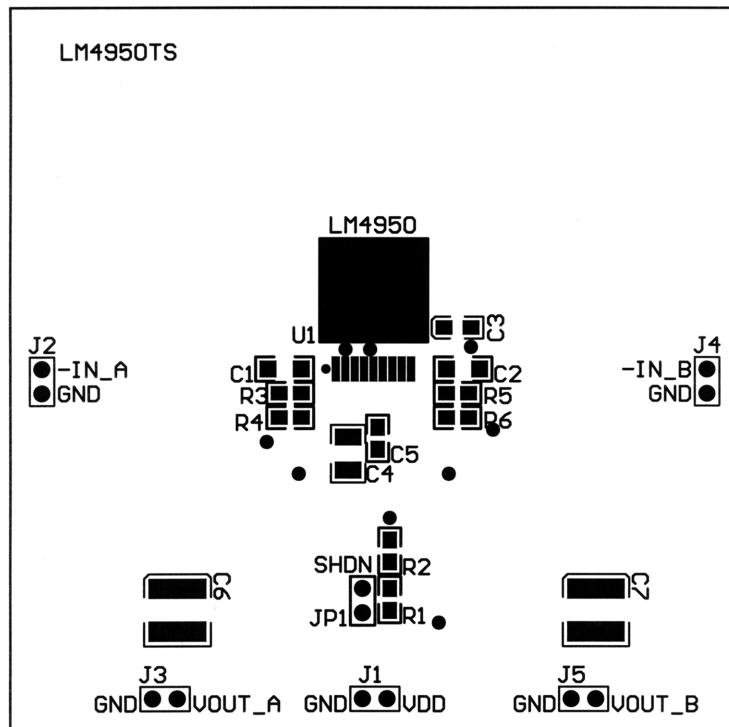
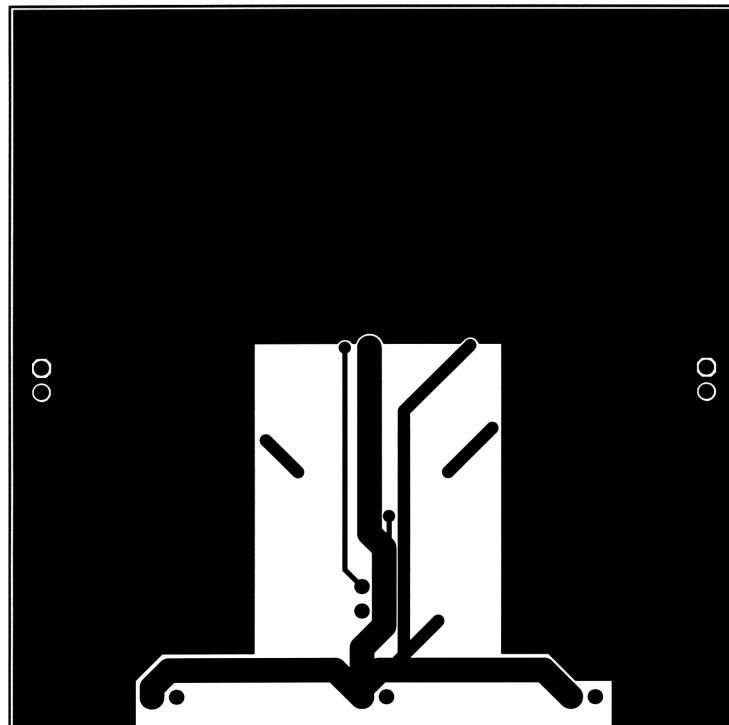

Figure 67. Recommended KTW SE PCB Layout:
Figure 69. Recommended KTW SE PCB Layout:
Figure 67 through Figure 69 show the recommended two-layer PC board layout that is optimized for the DDPAK-packaged, SE-configured LM4950 and associated external components. Figure 70 through Figure 72 show the recommended two-layer PC board layout that is optimized for the DDPAK-packaged, BTL-configured LM4950 and associated external components. These circuits are designed for use with an external 12V supply and 4Ω(min)(SE) or 8Ω(min)(BTL) speakers.